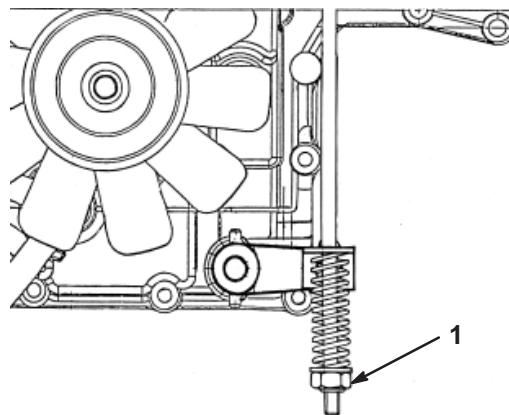

Figure 21
The brake is located on the right side of the rear axle, inside the rear tire (Fig. 21).
- Turn the brake adjusting nut clockwise until you cannot push the tractor (Fig. 21).